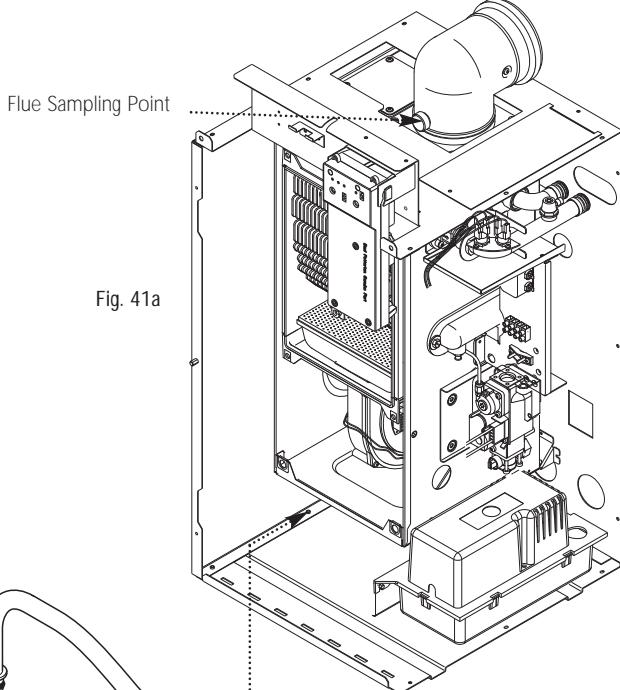

Fig. 41a
9. Check CO/CO₂ ratio at flue sampling point (Fig. 41a). See section 4.0.